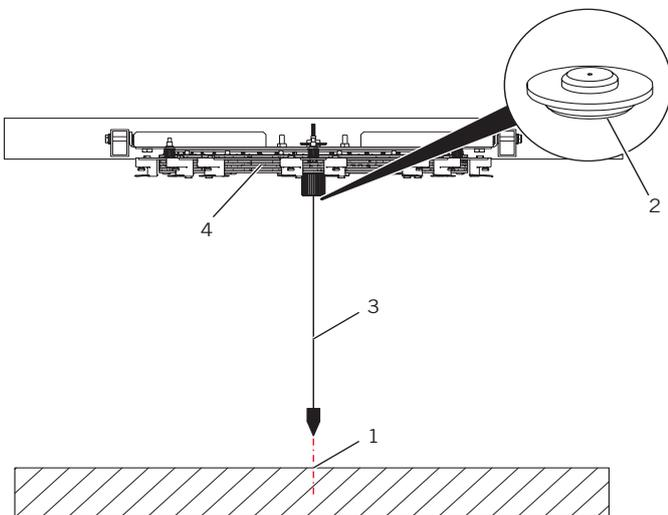

Fig. 81 Aligning the operator
2. Insert the enclosed plummet aid (Fig. 81/2) into the toothed shaft from underneath.
3. Lower the plummet and allow the pendulum movements to subside (Fig. 81).
4. Align operator to the center point (Fig. 81/1).
7. Position the lift truck underneath the operator (Fig. 81/4).